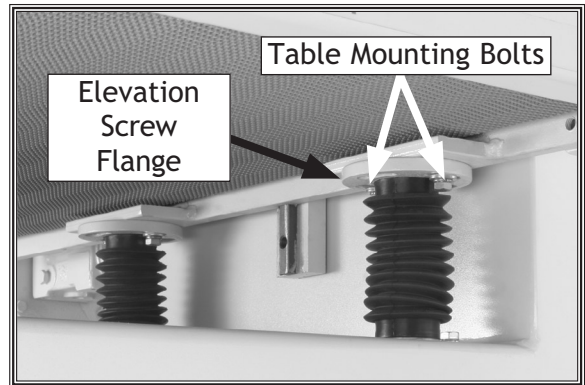

Figure 40. Table mounting bolts and elevation screw flange.
- For minor adjustment, loosen the table mounting bolts, shown in Figure 40, and rotate the elevation screw flange.